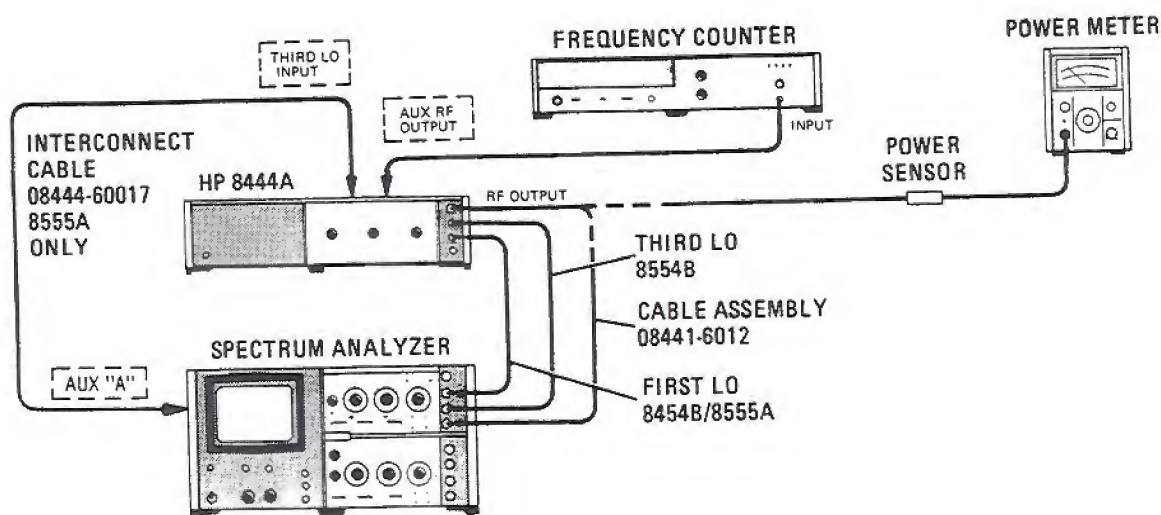

Figure 4-1. Output Level and Flatness Test Setup
2. Connect test setup as shown in Figure 4-1 and set controls as follows: